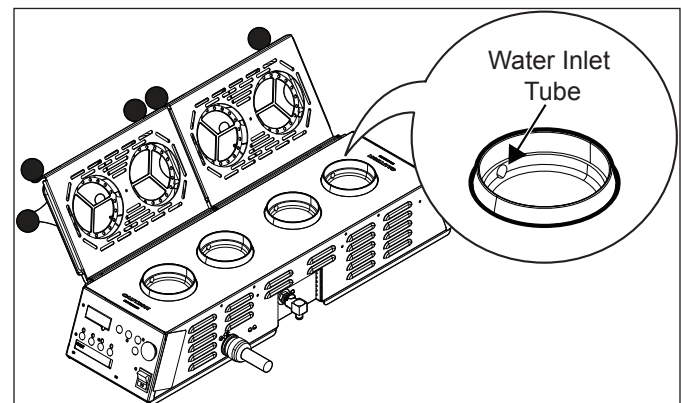

Figure 6. Water Inlet Tube
1. With the unit cool, insert a straightened paper clip into the Water Inlet Tube opening no more than 1 1/2 inches deep (Figure 6).